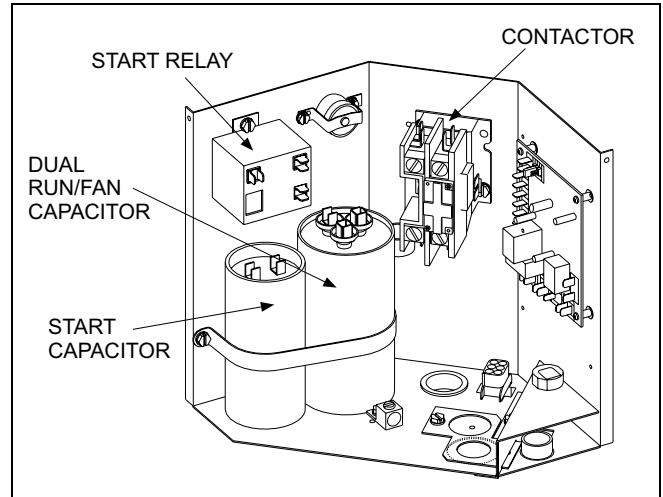

FIGURE 3
1. Use the two pilot holes on the left angled side to attach start relay. See Figure 3.